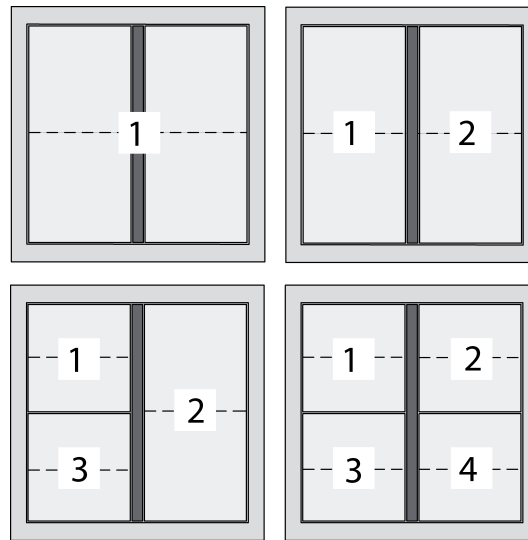

Figure 3: Button assignment
- Place the buttons on the device in the right orientation (figure 3) and snap in with a short push.